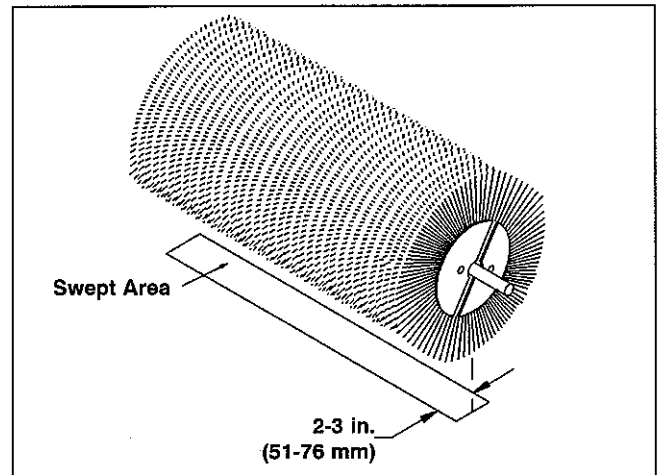

figure 21
4. Raise the sweeper and back away; switch off the sweeper and engine and remove the key. The brush pattern left in the dust should be 2-3 in. (51-76 mm) wide, running the length of the brush. Compare the swept area with figure 21.